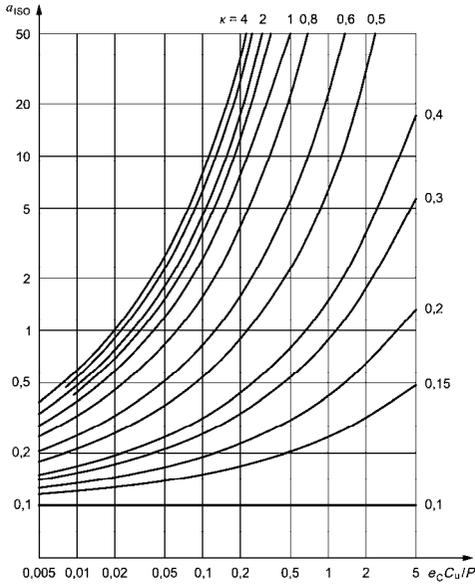

Fig. 6.11
- Fig. 6.11 for radial ball bearings